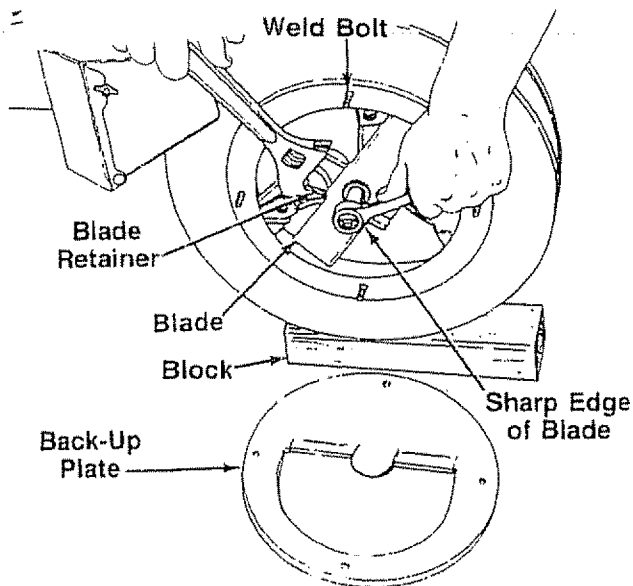

FIGURE 20.
- Lower the hopper assembly. Block up the housing. See figure 20
- Hold the blade retainer on the impeller assembly with an adjustable wrench to keep the blade from turning as shown in figure 20.